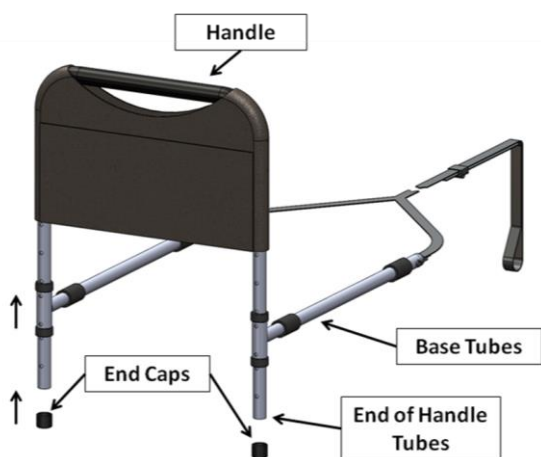

FIGURE 2
2. Slide Base Tubes onto the Handle as shown in Figure 2. After sliding Base Tubes onto the Handle, secure the End Caps onto the End of Handle Tubes.